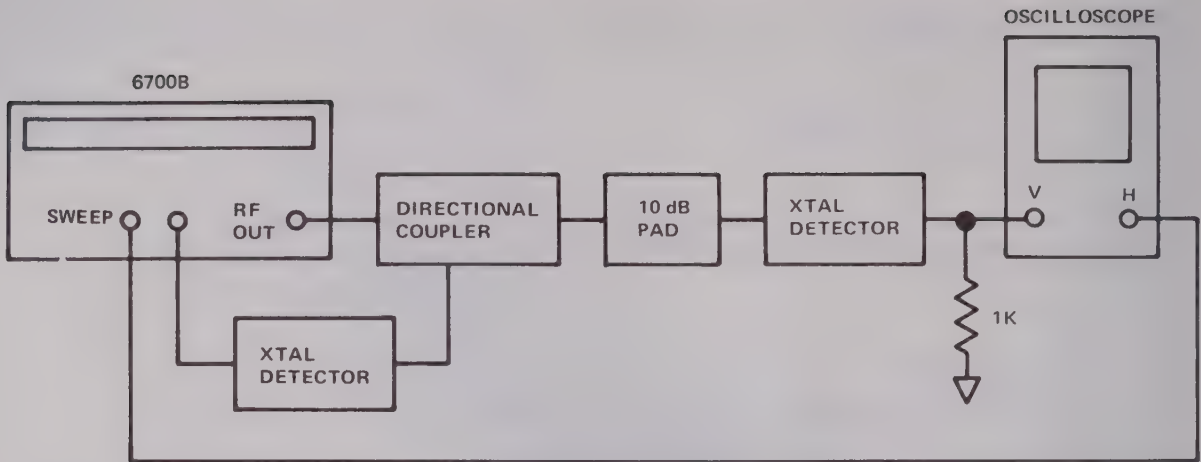

Fig. 18 Levelling calibration test set-up
- (2) Set PWR MTR/XTAL switch, S2, situated near the top front corner of leveller p.c. assembly A1 to the forward (XTAL) position. (See marking on r.f. unit top cover).
- (3) Connect oscilloscope to TP4 on Assembly A1 via a 1 k Ω resistor.
- (4) Adjust R44 so that level observed on oscilloscope is between -5 and -10 mV. Then disconnect oscilloscope.
- (5) Connect equipment as shown in Fig. 18, using no more than 25 cm of coaxial lead between Detector 1 and DET INPUT connector on r.f. unit.
- (6) Depress EXT button of LEVELLER MODE switch to establish external levelling.
- (7) Adjust RF LEVEL control so that the r.f. output is approximately 25% below the level at which it is just levelled across the entire band.
- (8) Set 1 kHz ☐ to ON position.
- (9) Observing the r.f. output displayed on the oscilloscope, adjust R16 for minimum overshoot consistent with fast rise time. This adjustment should result in a rise time within specifications and less than 10% overshoot.